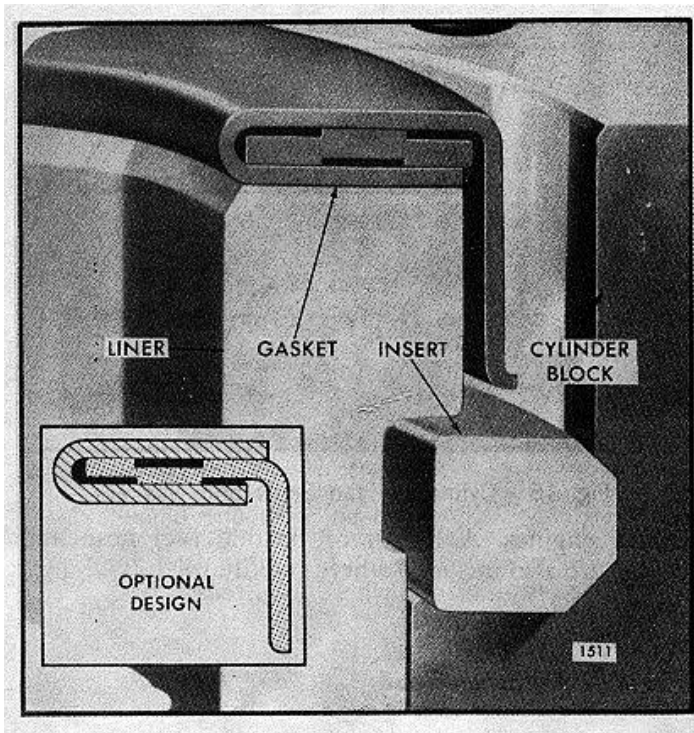

FIG. 17 Compression Gasket Mounting in Cylinder Block
- a. Place a new compression gasket on top of each cylinder liner. A new cylinder liner compression gasket with improved sealing capabilities is now being used (Fig. 17). The new gasket can be identified by GM-MC-H, GM-VG-H or GM-FP-H. The compression gasket is also color coded black, orange or white. The service gasket kits will only include a single color (black or orange). Only one color compression gaskets (seal) can be used under a single cylinder head to provide proper clamping.
8. Tighten the bolts to 175-185 lb-ft (238-251 Nm) torque in 50 lb-ft (68 Nm) increments with a torque wrench, in the sequence shown in Fig. 17. Repeat the tightening sequence at least once, because the first bolts tightened in the sequence tend to lose significant clamp load during tightening of the remaining bolts. Apply a steady pressure for two or three seconds at the prescribed torque to allow the bolts to turn while the gaskets yield to their final designed thickness. *Begin on the cam follower side of the head* to take up tension in the push rod springs. Tighten the bolts to the high side of the torque specification, but do not exceed the limit or the bolts may stretch beyond their elastic limits. Attempting to tighten the bolts in one step may result in trouble and consequent loss of time in diagnosis and correction of difficulties, such as compression leaks, when the engine is put into operation.